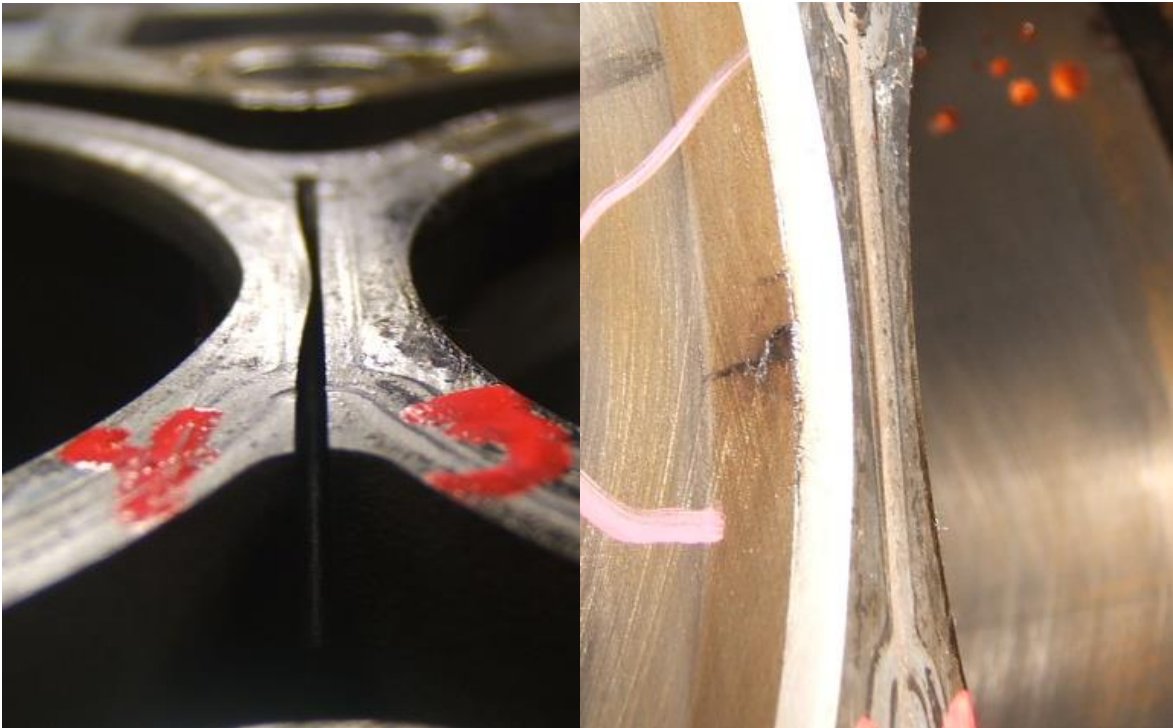

Figure 2
- Inspect the cylinder head and block for warpage, cracks, surface impressions and collapsed saw cuts between the cylinder bores. Figure 2